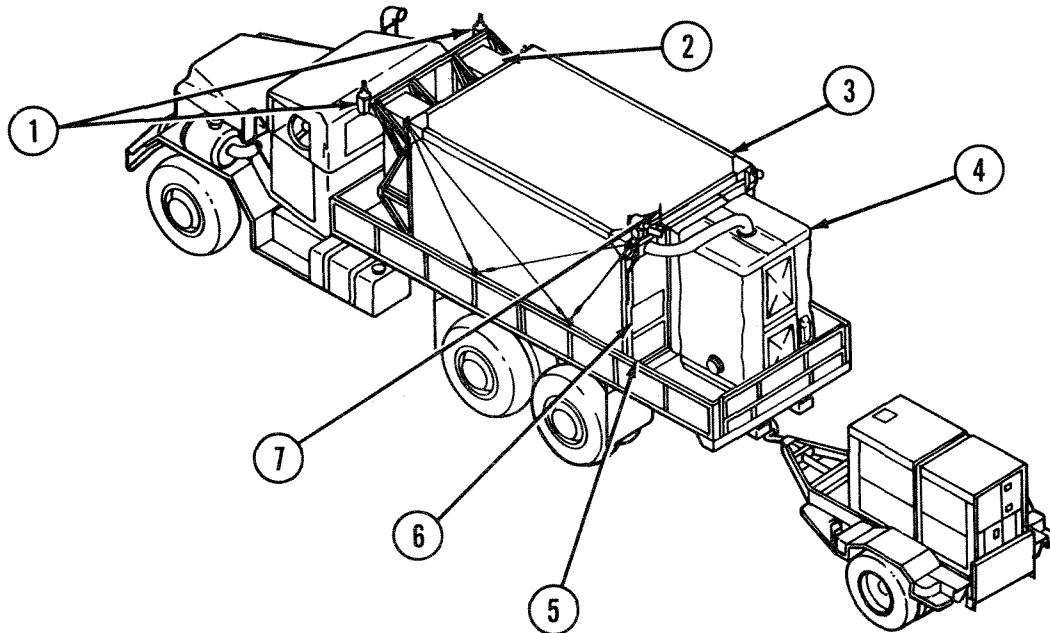

Figure 2-23. PCC Major Exterior Features
a. *Exterior Features.* Figure 2-23 shows PCC major exterior features.